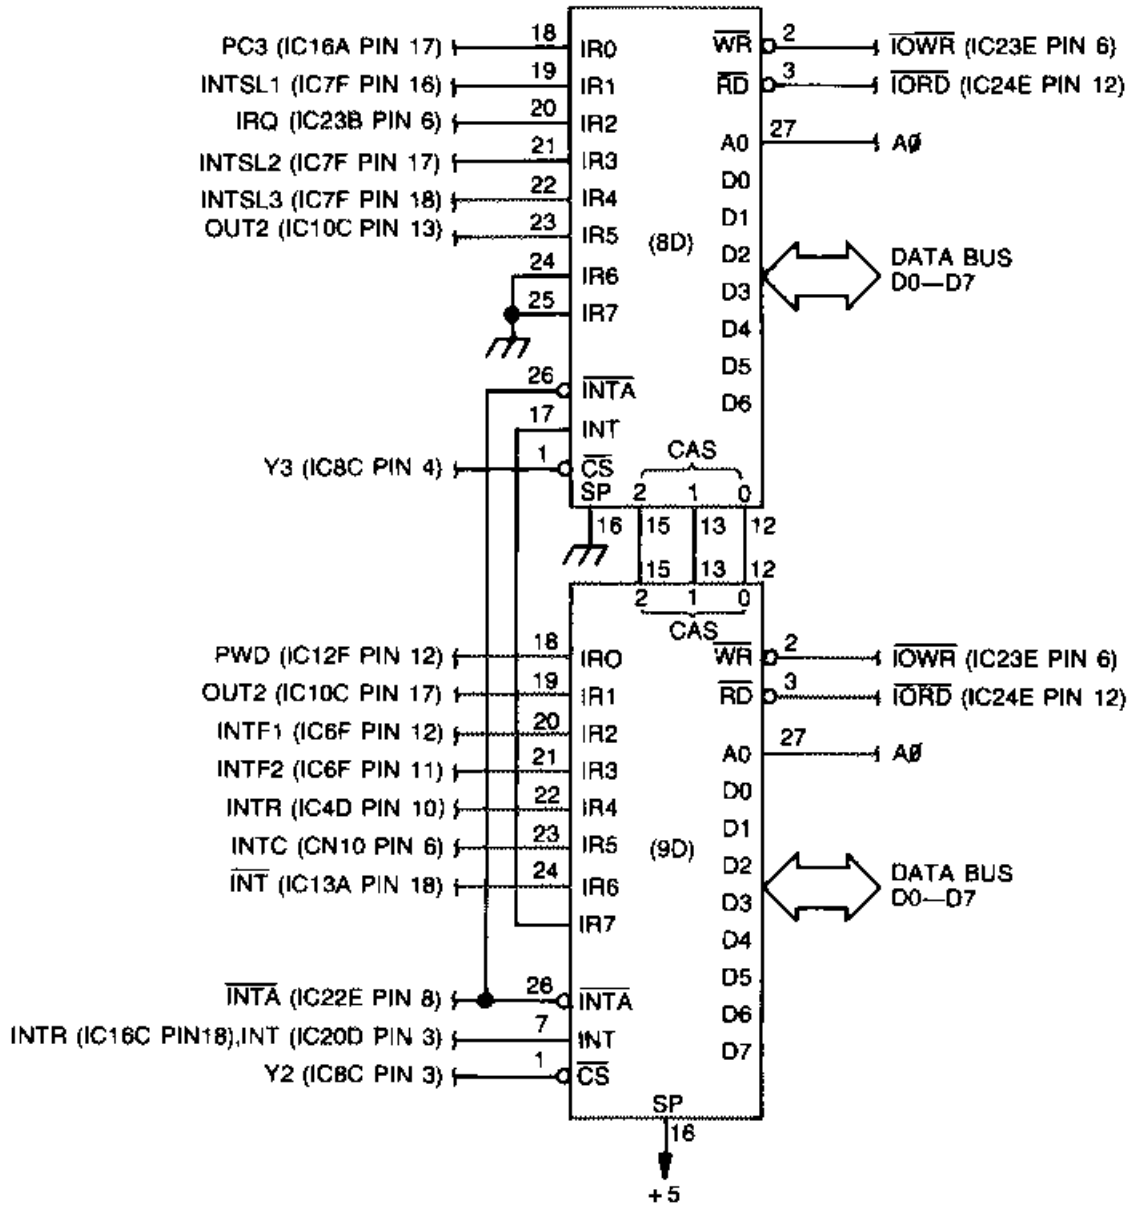

FIGURE 2-54. 8259 PROGRAMMABLE INTERRUPT CONTROLLER CIRCUIT
2.3.4.3 8259 Programmable Interrupt Controller (Figures 2-54 through 2-56)
Two 8259 programmable interrupt controllers (8D/9D), connected as shown in Figure 2-54, provide 13 interrupt inputs or levels. The interrupt controllers operate in a master-slave arrangement with IC 9D acting as the master. These two devices are configured differently depending upon the active CPU. (Refer to Tables 2-28 and 2-29.)